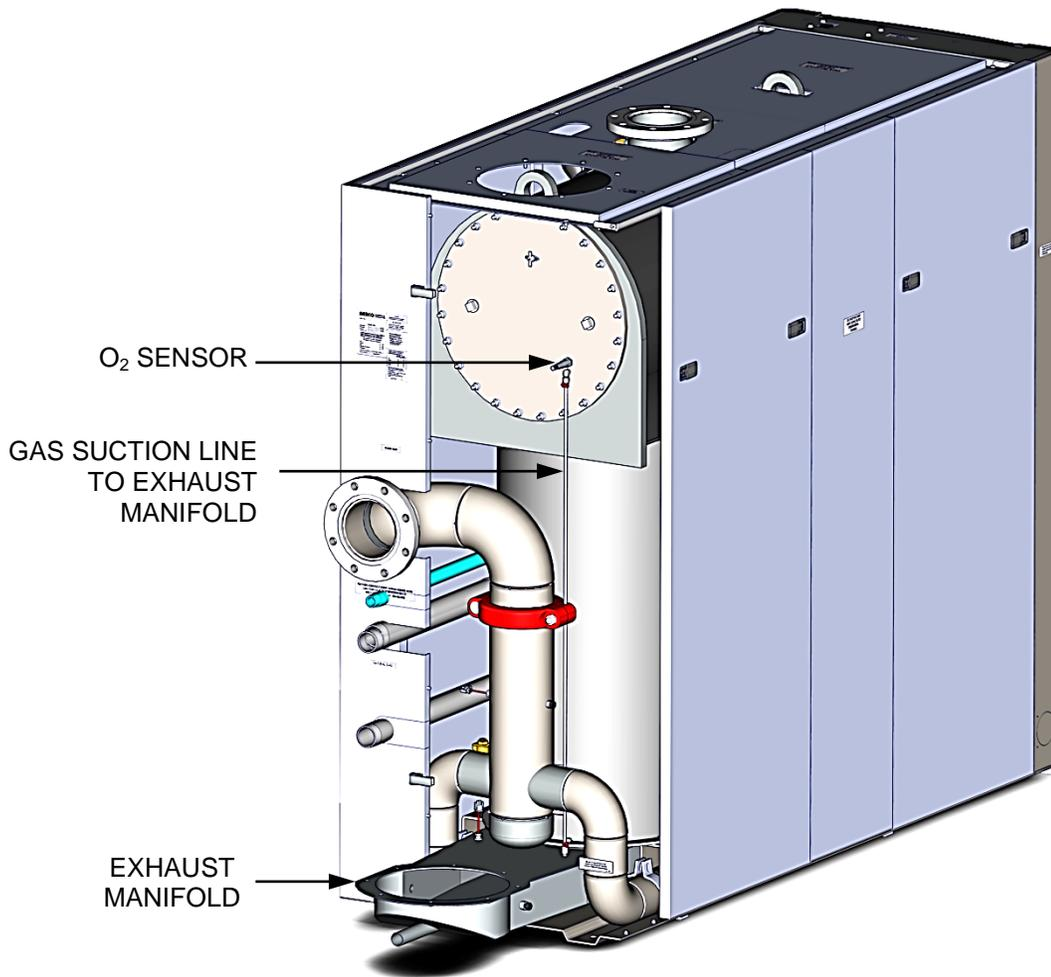

Figure 7-2. O₂ Sensor Mounting Location
The Lean Oxygen Sensor (P/N **61026**) is located on the back plate at the right side of the unit as shown in Figure 7-2. As this Figure shows, there is also a gas suction line that supplies a sampling of the exhaust gases from the exhaust manifold to ensure accurate sampling of the O₂ levels. The sensor and the suction line may be hot, therefore allow the unit to cool sufficiently before removing or replacing the O₂ sensor.
2. Remove the left-rear access panel from the unit's right side panel by removing the 4 Phillips head screws attaching it (Figure 7-2).